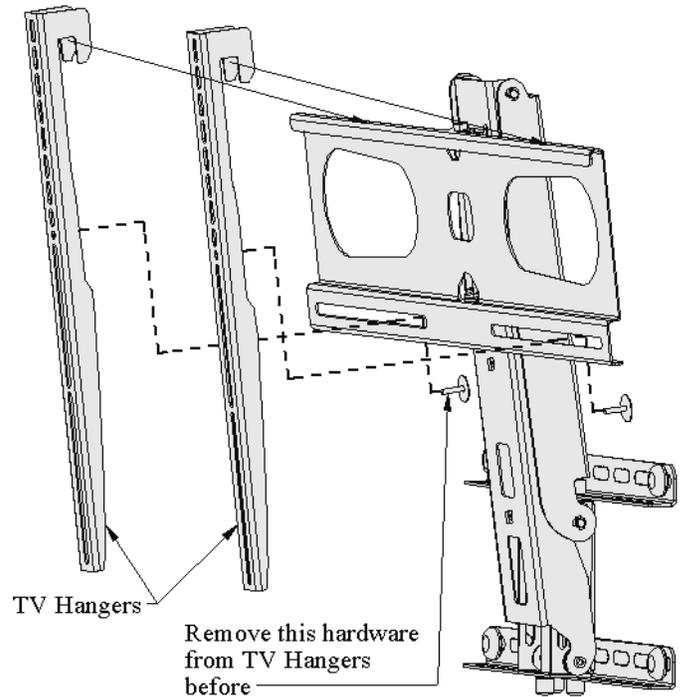

Figure 15, Attaching the Television
3. Hook the TV Hangers (with the TV attached to them) over the Hook Plate as shown Figure 15.